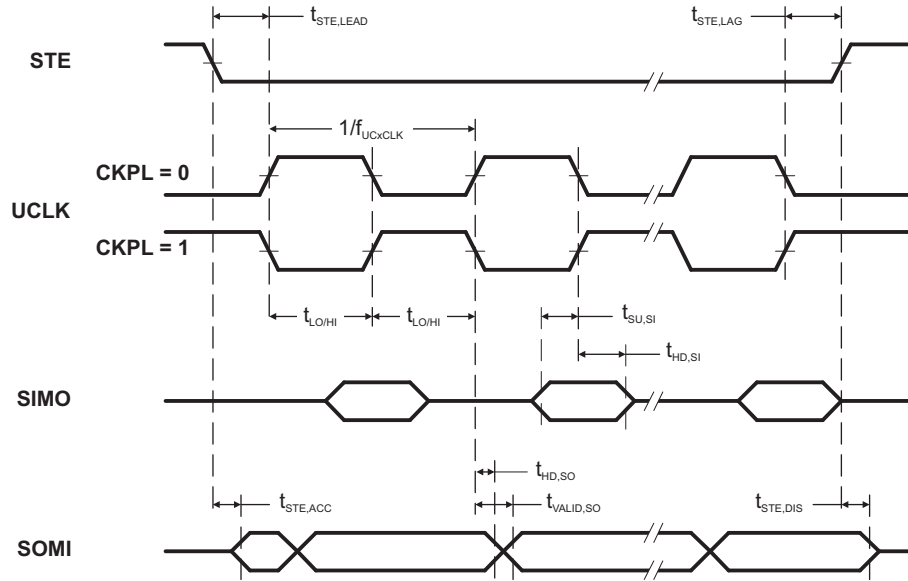
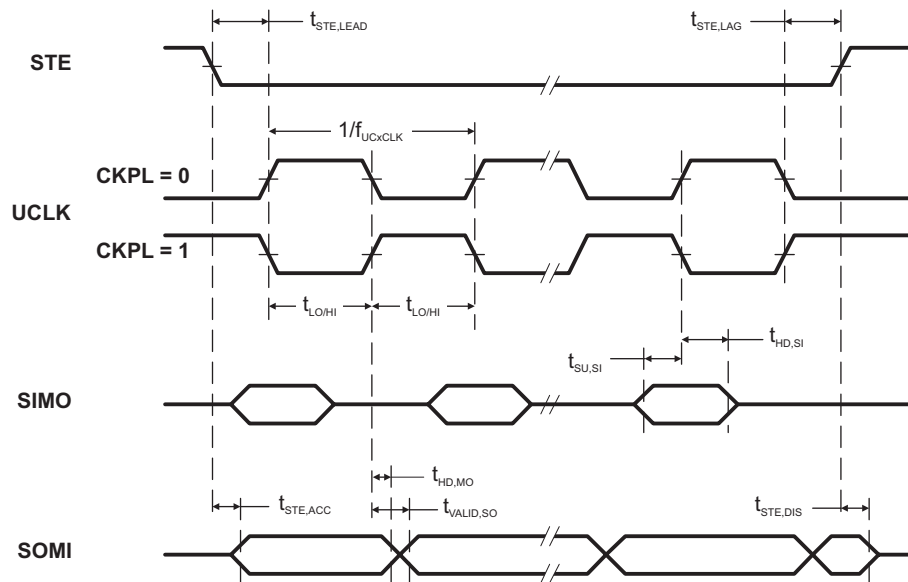

Figure 5-13. SPI Slave Mode, CKPH = 0
Figure 5-14. SPI Slave Mode, CKPH = 1
(see Figure 5-13 and Figure 5-14)
- (1) $t_{UCxCLK} = 1/2(t_{LO/Hi} \text{ with } t_{LO/Hi} \geq \max(t_{VALID,MO(Master)} + t_{SU,SI(USCI)}, t_{SU,MI(Master)} + t_{VALID,SO(USCI)})$. For the master parameters $t_{SU,MI(Master)}$ and $t_{VALID,MO(Master)}$, see the SPI parameters of the attached slave.
- (2) Specifies the time to drive the next valid data to the SOMI output after the output changing UCLK clock edge. See the timing diagrams in Figure 5-13 and Figure 5-14.
- (3) Specifies how long data on the SOMI output is valid after the output changing UCLK clock edge. See the timing diagrams in Figure 5-13 and Figure 5-14.